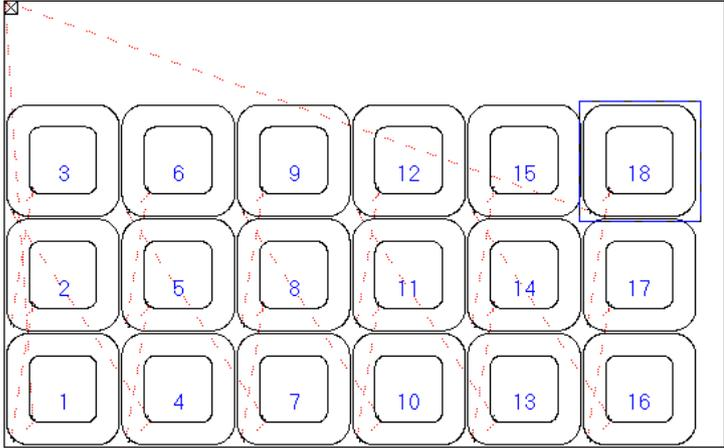

Figure 6-11-2
- Automatic array: program calculates the maximum quantity of array according to the minimum part spacing as well as its position in the array. And nesting can be done with direction firstly upwards from the part's position, and then to the right, as shown in Figure 6-11-2: